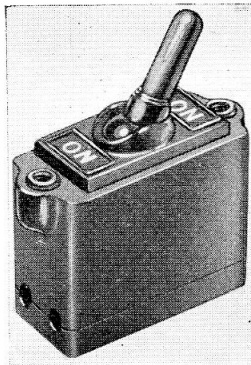
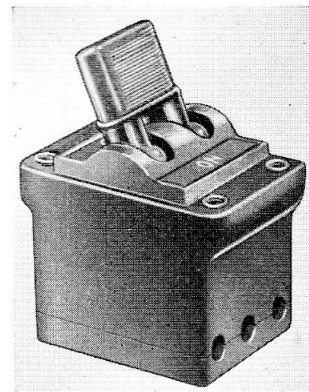

Fig. 1. General view of Rotax D5400 switch
Fig. 2. General view of Rotax D5500 switch
1. Each switch in the Rotax Type D5400 series (*fig. 1*) is a single-pole type contained in a moulded case. In the Type D5500 series (*fig. 2*) each switch comprises two Type D5400 switches in one moulded case, with the switch levers strapped together. The Type D5500 series thus becomes double pole. The action of the switches in both series is generally the same, but in some cases a spring return is incorporated. A list of variations is given in Appendix 1, Table 2.
8. Protective rubber shrouds and fixing plates (*Table 1, Appendix 2*) are provided to prevent the ingress of moisture and dust. Care should be taken when fitting the shrouds (*figs. 1 and 2, Appendix 2*) to ensure that the shroud occupies the position shown; this will avoid stretching the shroud during normal operation of the switch. Where shrouds cover switch engravings, appropriate transfers (*Appendix 2*) can be fitted to the fixing plates or panel.